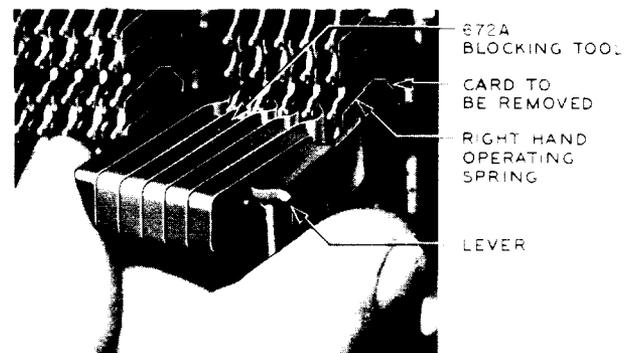
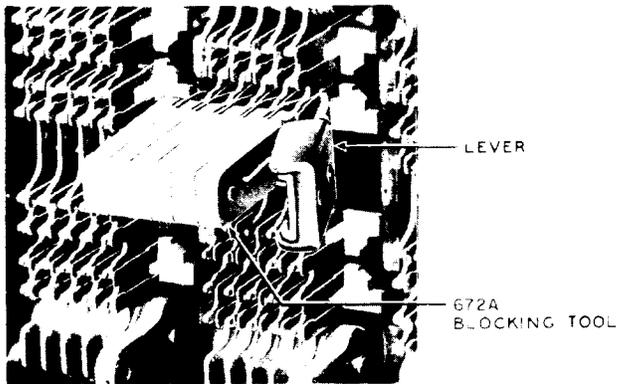

Fig. 7—Applying Blocking Tool
Fig. 8—Blocking Tool in Position
(1) At the position of the card to be replaced, hold the 672A blocking tool with the lever at the right and the springs of the tool just in back of the springs of the vertical unit at which the card is to be replaced. Where the card is on a unit having less than six contacts per crosspoint, place the tool so the lever is at the right and when in position will operate the right-hand operating spring. Force the tool into position, as shown in Fig. 7 and 8, exercising care not to damage the springs. (Make sure the tool is fully seated; that is, the front end of the tool strikes the ends of the springs, as shown in Fig. 8, and all the associated contacts of the crosspoint are closed.)